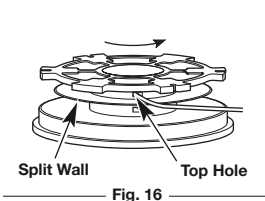
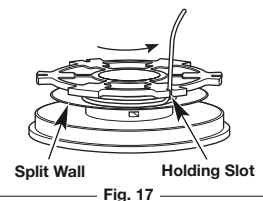

Fig. 16
Fig. 17
- Insert the end of one line into the top hole in the inner reel (Fig. 16). Wind the line tightly in the direction shown on the bottom of the inner reel until about 6 inches (150 mm) of line remains. Keep the line above the split wall. Insert the 6-inch section into the nearest 0.095 holding slot (Fig. 17).